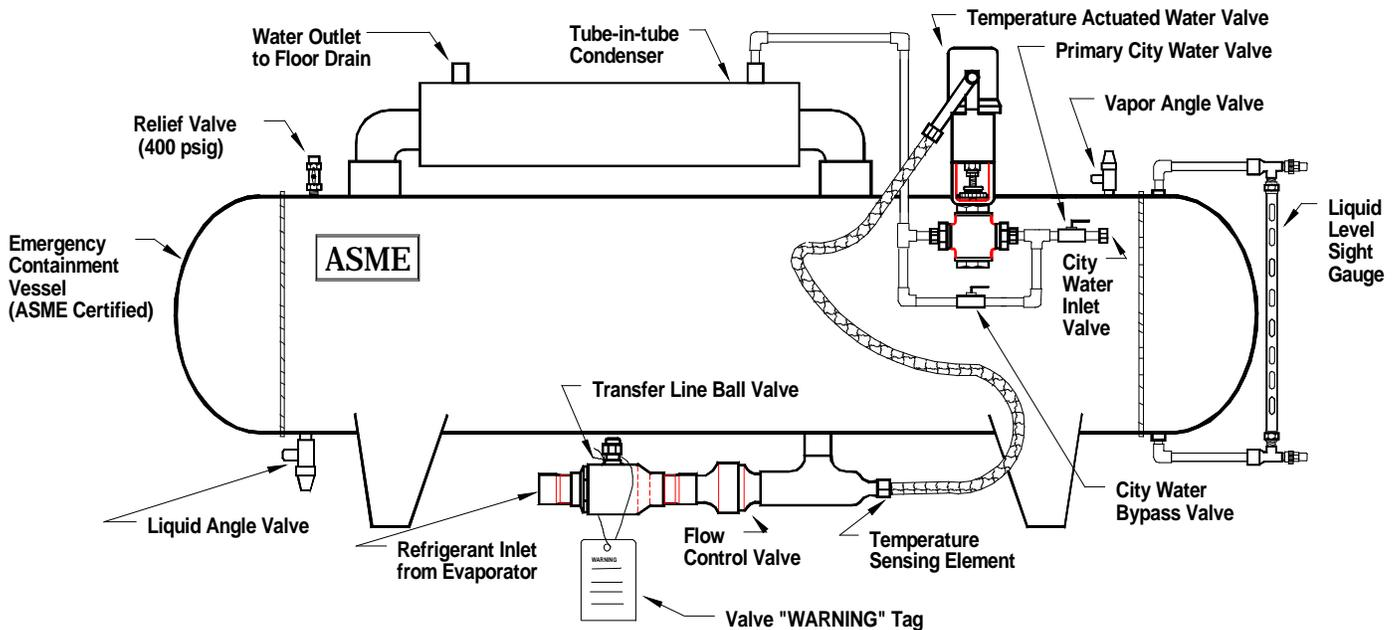

Figure 12. - Schematic of System
12. Attach valve “WARNING” Tag to transfer line ball valve (see Figure 12 on page 14).
2. Both liquid level gauge valves should normally remain closed at all times and opened only when it is necessary to view liquid level, then re-closed (see Figure 12).
3. Primary city water valve **MUST** remain OPEN at all times (see Figure 12).
4. Bypass city water valve **MUST** remain CLOSED at all times except when performing manual refrigerant transfer (see Figure 12).